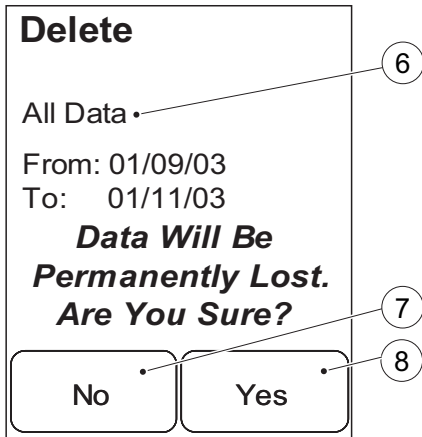

FIGURE 7-22
The From date (2) and To date (3) displayed represent the earliest and latest stored records of the selected type. It is possible to alter the To date but not the From date. If no change is required, press Confirm (5). FIGURE 7-22 will be displayed.
b) If required, enter a new To date (3) via the Digit buttons (4). When finished press Confirm (5). FIGURE 7-22 will be displayed.